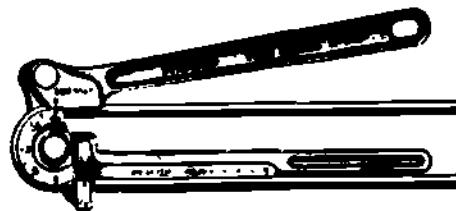

Figure 1-63. Lever Type of Tubing Bender
- b) Three of the more common types are shown in Figures 1-63 to 1-65: the lever, geared-ratchet, and outside-spring types.